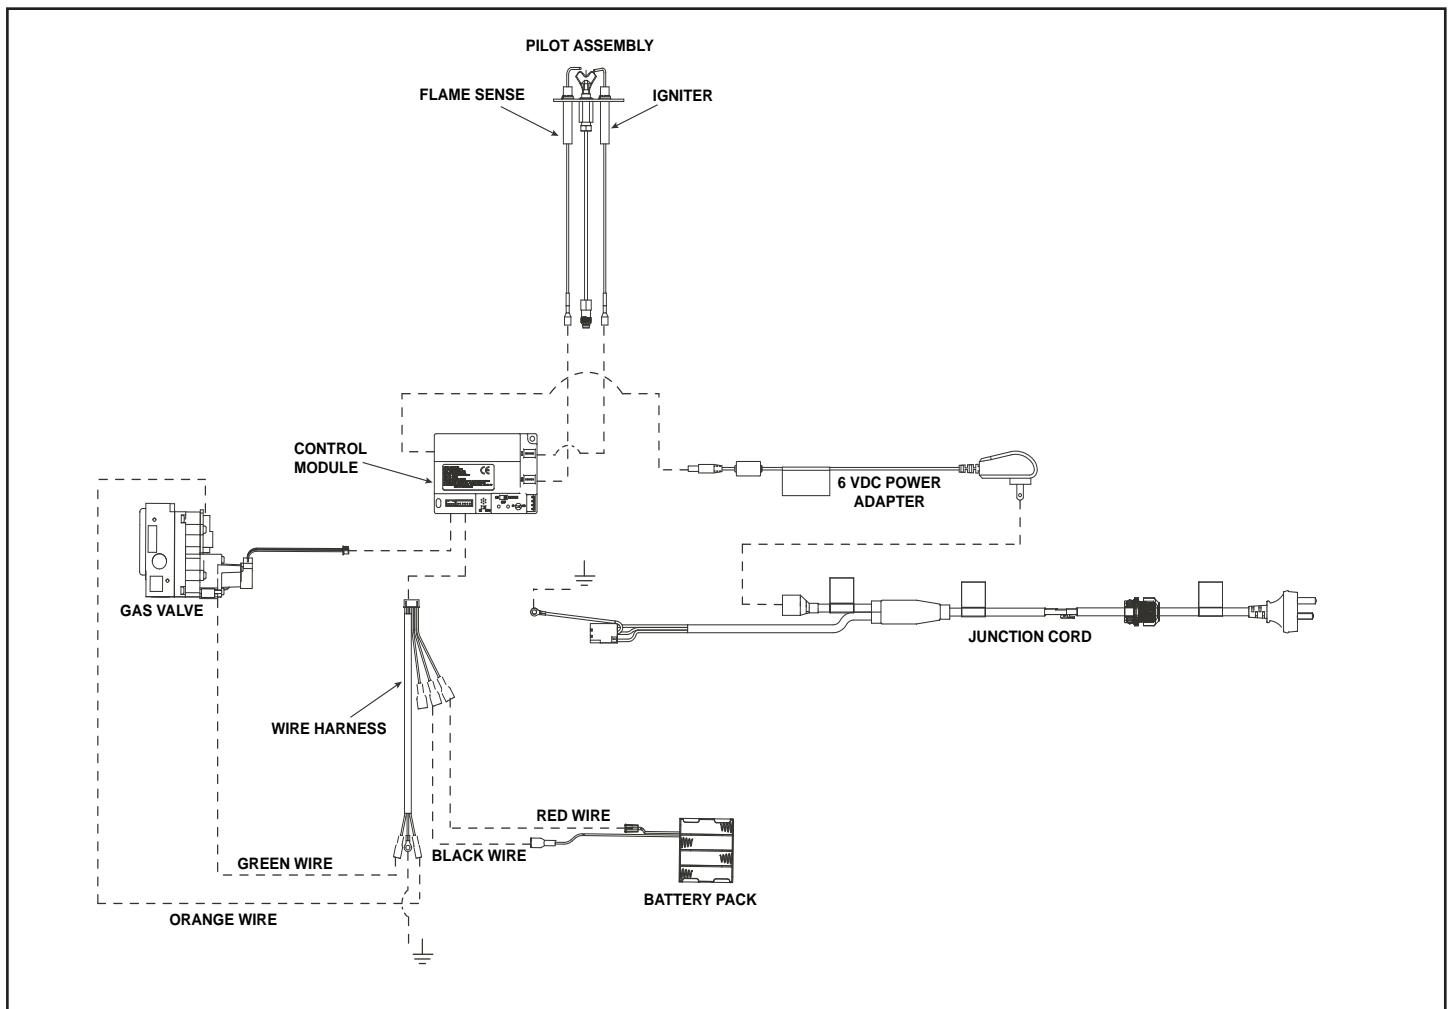

Figure 8.1 IntelliFire™ Plus Wiring Diagram
- Refer to Figure 8.1, IPI Wiring Diagram.